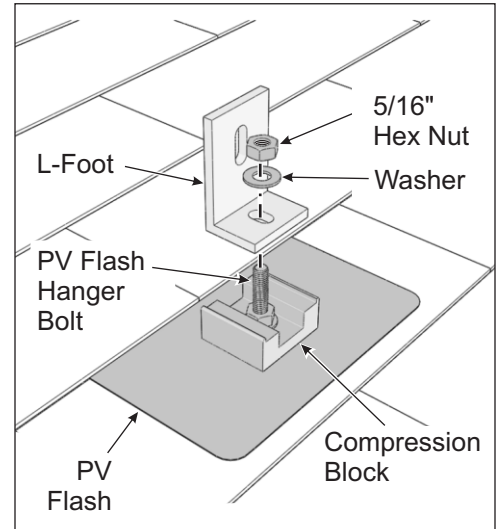

Figure 1-1: Attaching "L" Foot to the PV Flash
- B. Secure L-Foot with 5/16" flat washer and hex nut. **Torque to 14-16 ft.-lbs.** (See Figure 1-1)